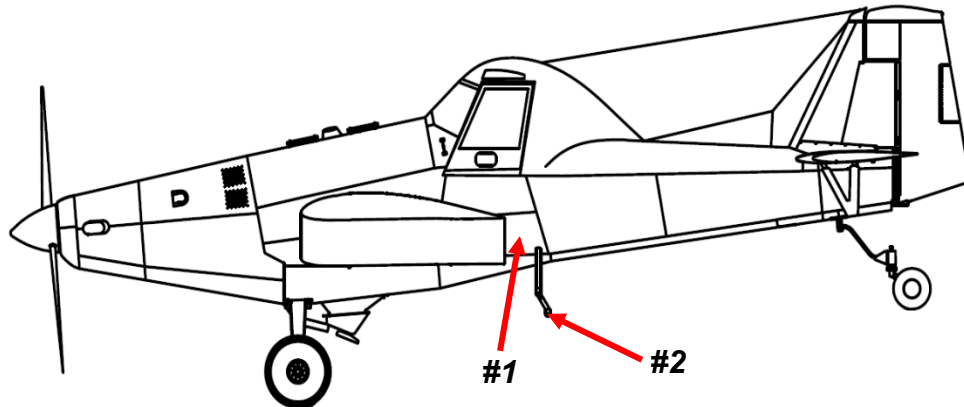

Figure 1
1. Remove L/H and R/H lower side skins then set aside. (Reference Figure 1)